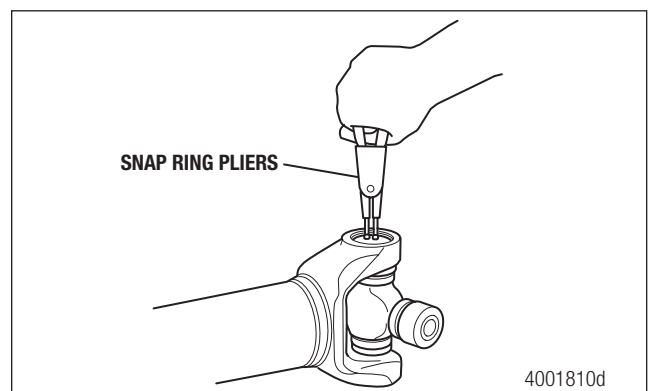

Figure 5.1
1. Use snap ring pliers to remove the snap rings. Figure 5.1.